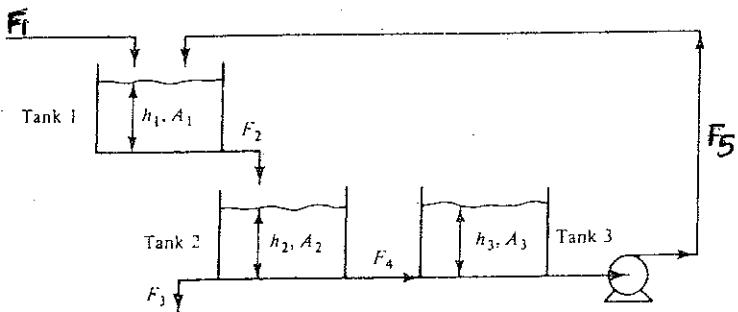

FIGURE 1
1. Develop the mathematical model for the system shown in Figure 1. What are the state variables for this system and what type of balance equations have you used? All the flow rates are volumetric and the cross sectional areas of the three tanks are A_1 , A_2 and A_3 (ft^2) respectively. The flow rate F_5 is constant and doesn't depend on h_3 , while all other effluent flow rates are proportional to the corresponding hydrostatic liquid pressures that cause the flow. [6M]